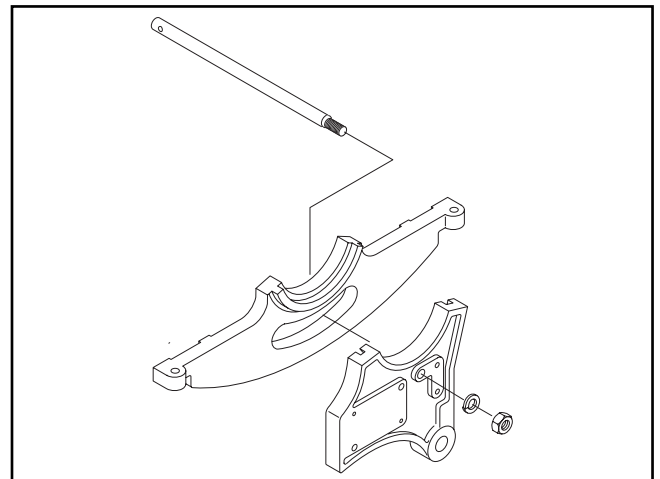

FIGURE 8. Attaching guard support shaft.
2. Push the threaded end of the shaft through the hole in the back of the saw and into the rear trunnion bracket (**Figure 8**).